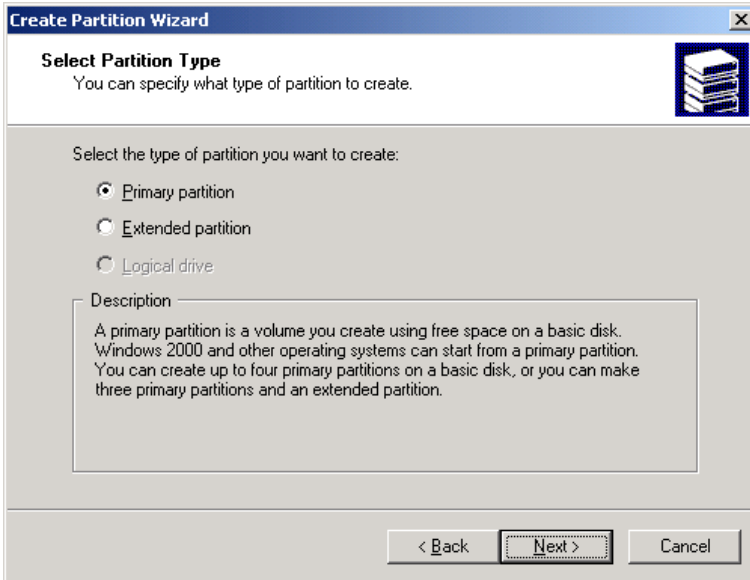

Figure 3.3 Create Partition Wizard Screen
1. On the Disk Management main panel, select the unallocated area for the SCSI disk you want to partition and select the **Create Partition** menu. A Select Partition Type wizard screen displays (see Figure 3.3). Select the desired type of partition, and then click **Next**.